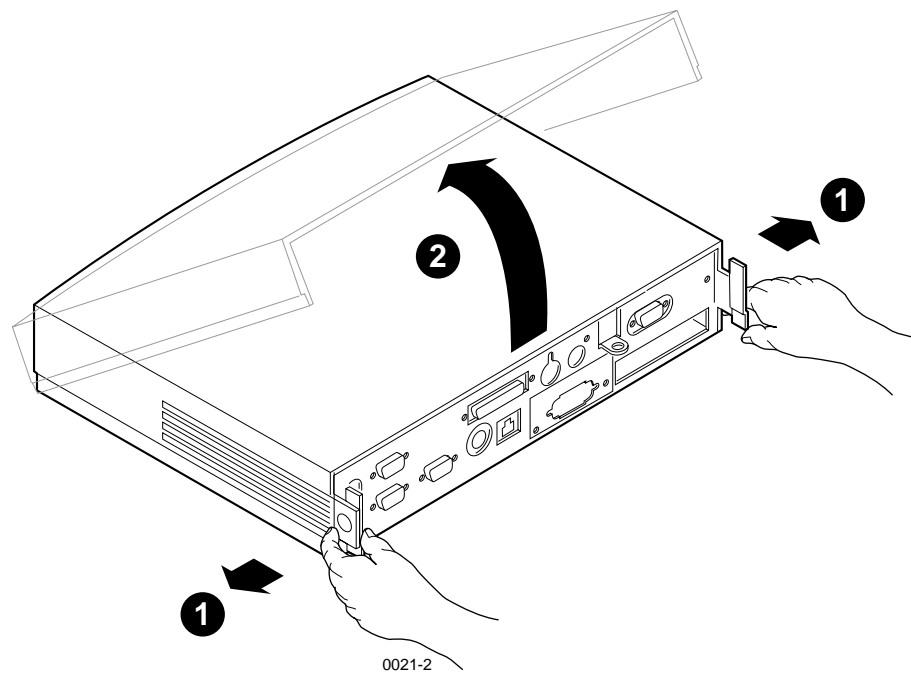
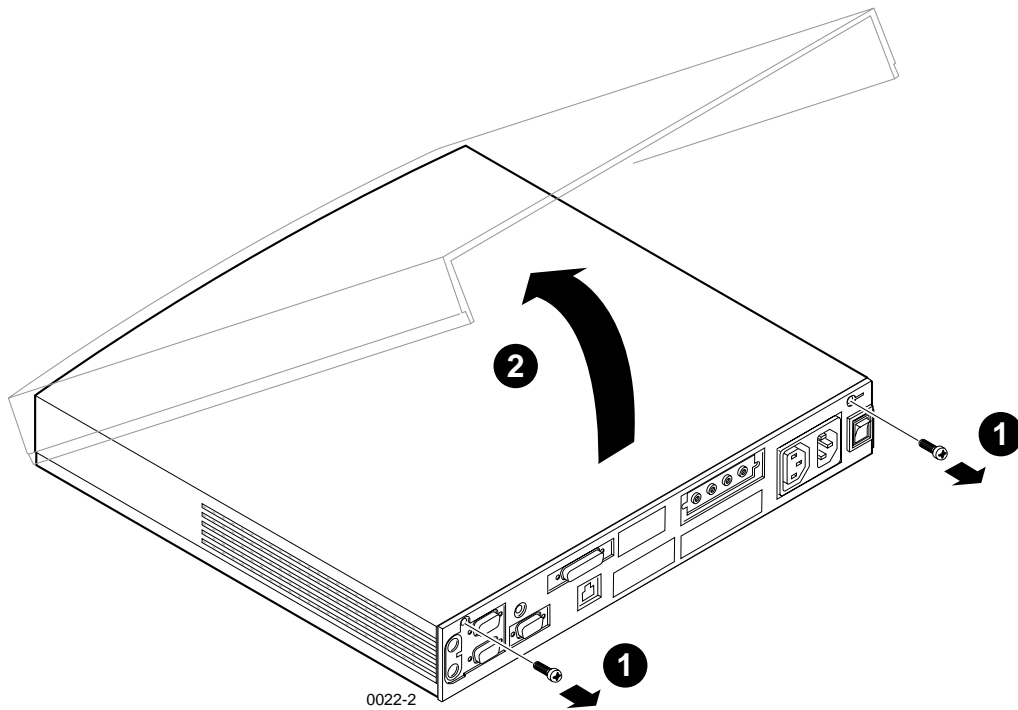

Figure 3. Removing the NC200 Logic Module Cover
Figure 4. Removing the NC400 Logic Module Cover
5. Remove the logic module cover. **NC200:** As shown in Figure 3. **NC400:** As shown in Figure 4.